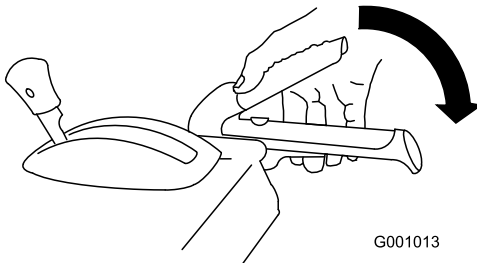

Figure 35
1. To engage the auger/ impeller drive, squeeze the right hand (auger/ impeller) lever to the handgrip (Figure 35).